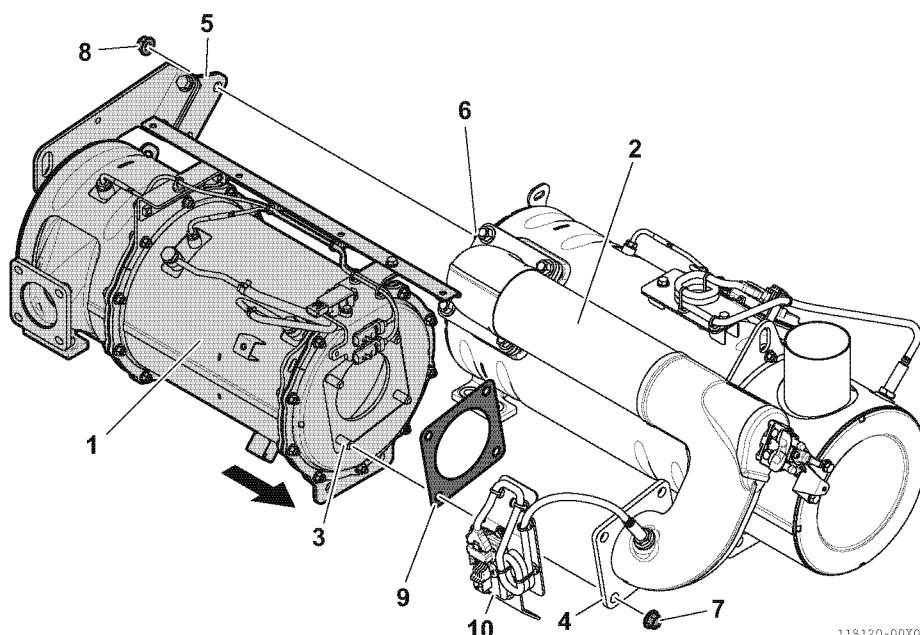

Fig.25-58
- Install the DPF (1, Fig.25-58) with sensors attached to the SCR pipe (2, Fig.25-58), and firmly tighten them together. Align and insert the stud bolts (3, Fig.25-58) on the DPF exhaust gas outlet side to the SCR pipe flange (4, Fig.25-58), and loosely tighten it using the flange side nuts (7, Fig.25-58). Also, align the SCR stay (5, Fig.25-58) to the stud bolts (6, Fig.25-58), and loosely tighten it using stay side nuts (8, Fig.25-58). Replace the gasket (9, Fig.25-58) between the DPF and SCR pipe with a new one. Attach the upstream NOx sensor bracket (10, Fig.25-58) to the DPF.